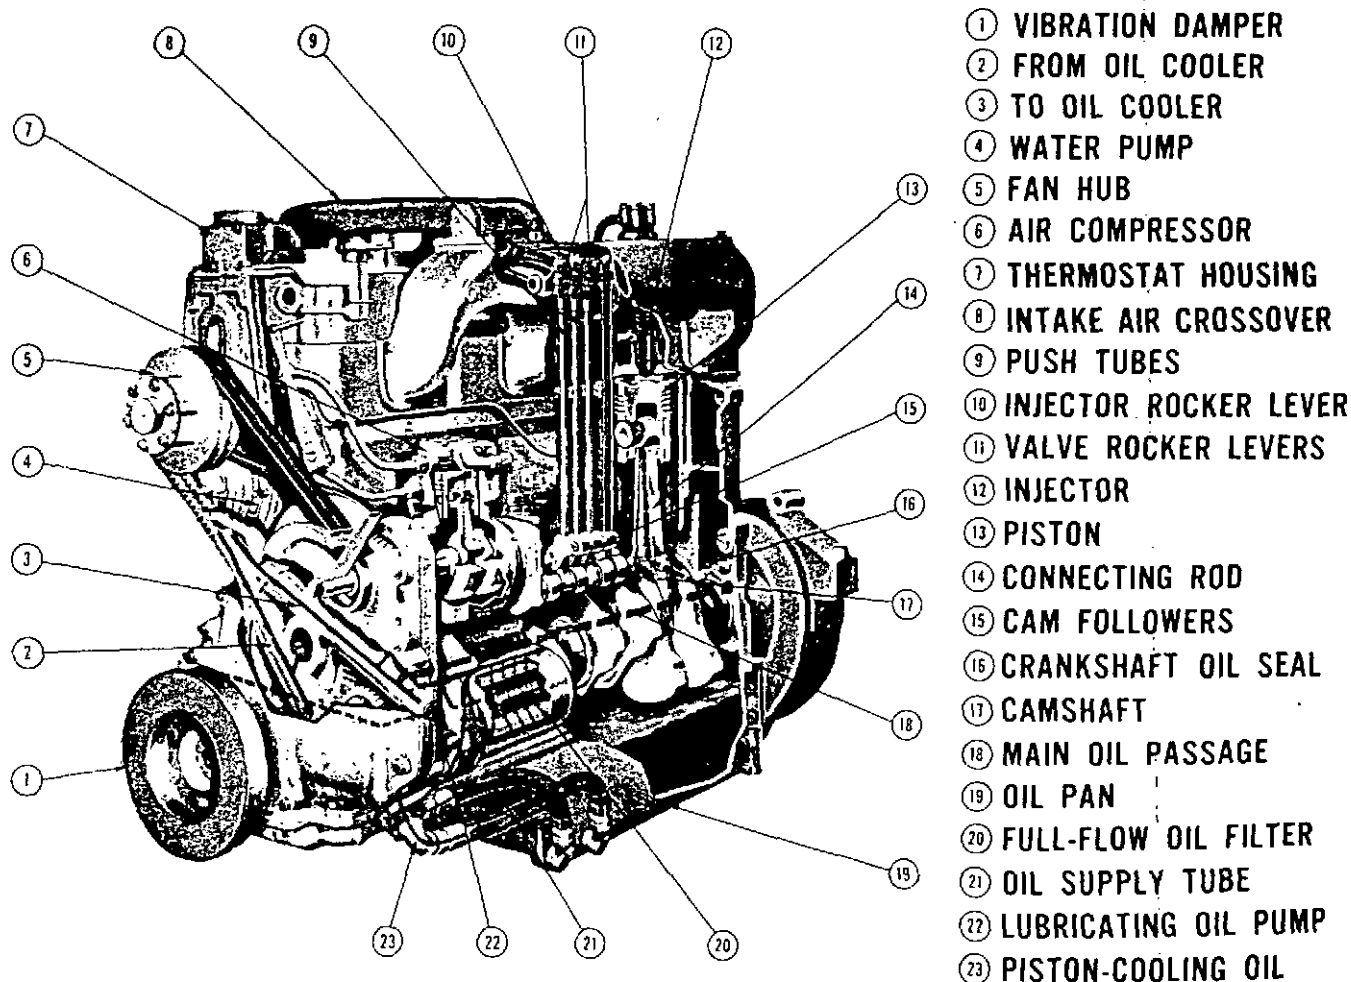

Fig. 1-14, LWC18. Lubricating oil flow - NT-380 Engine (fuel pump side)
3. On IOL engines the filtered oil then flows from the pump connection to the oil cooler and from the cooler back to the oil header through internal drillings in the gear case. On EOL engines, oil flow from pump-to-cooler-to-oil header is accomplished by external lines. Fig. 1-14.